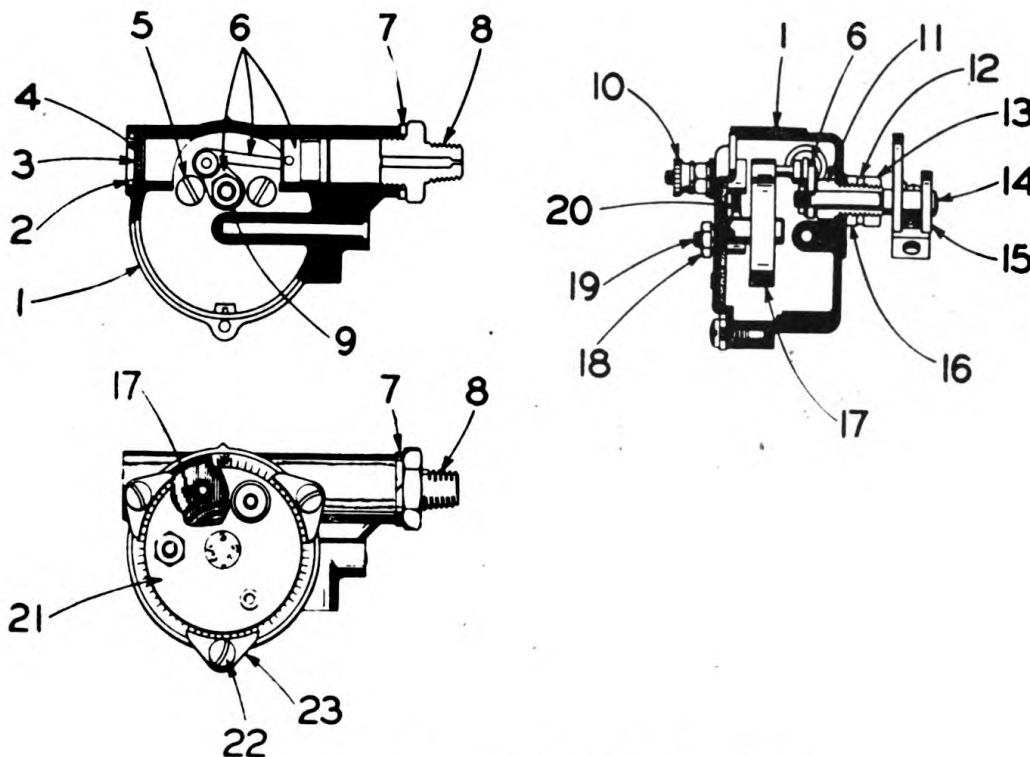

Figure 5.—Automatic choke diagram
(2) The vacuum piston, link and lever assembly, 6, figure 5, opens the choke valve when the engine begins to fire. This is accomplished by means of a rod hook-up from a lever on the automatic choke control unit to a choke lever attached to the choke valve-stem of the carburetor unit.
*b. Functioning.*—(1) When the engine ignition is turned off and the engine allowed to stand, the heating coil, 20, figure 5, in the thermostat assembly, 21, figure 5, cools, since its source of heat derived from the same current source as that which supplies the ignition, is no longer present.
(2) As the heating coil cools, the thermostat spring, 17, figure 5, also cools and gradually rotates the choke lever, 15, figure 5, closing the choke valve in the carburetor. The automatic choke control and choke valve remain in this position while the engine is not in operation, and also during the cranking period.
(3) The thermostat assembly, 21, figure 5, is directly connected at the hot wire post, 10, figure 5, by a wire to the ignition switch of the engine. When the ignition switch is turned on, the thermostat heating coil, 20, figure 5, is heated by the passage of current through it.
(4) When the engine is started, a vacuum is created in the manifold. The automatic choke unit, connected by means of a tube from the vacuum line union, 8, figure 5, to the intake manifold, is now subjected to the manifold vacuum which actuates the vacuum piston, link and lever assembly, 6, figure 5. As the heating coil, 20, figure 5, heats up, with the closing of the ignition switch, the thermostat spring, 17, figure 5, also tends to heat and lose its tension. This enables the vacuum piston, through its link and lever assembly, to pull in a direction opposite to the spring tension and actuate the choke lever, 15, figure 5, so as to open the choke and permit normal operation of the engine.
**10. VOLTAGE REGULATOR.**—*a. General.*—(1) The voltage regulator is an instrument which performs the functions of an auto-
16. **AUTOMATIC CHOKE.**—*a.* The automatic choke thermostat assembly, 21, figure 5, is preadjusted and under ordinary circumstances it will give many months of satisfactory service. The heating elements, 20, figure 5, have been designed to furnish sufficient heat to provide the correct amount of thermostat tension for choking. Should it become necessary to replace the thermostat unit, the whole assembly should be renewed since the thermostat spring, 17, figure 5, is included in the thermostat assembly as a single unit and replacement of the thermostat spring alone is not recommended.
*b. Thermostat setting.*—When replacing the thermostat unit, the loop of the thermostat spring must be placed over the pin of the vacuum piston, link and lever assembly, 6, figure 5. (THIS OPERATION IS VERY IMPORTANT, SINCE IT IS NECESSARY THAT THE LOOP OF THE THERMOSTAT BE INSTALLED PROPERLY IN RELATION TO THE PIN OF THE VACUUM